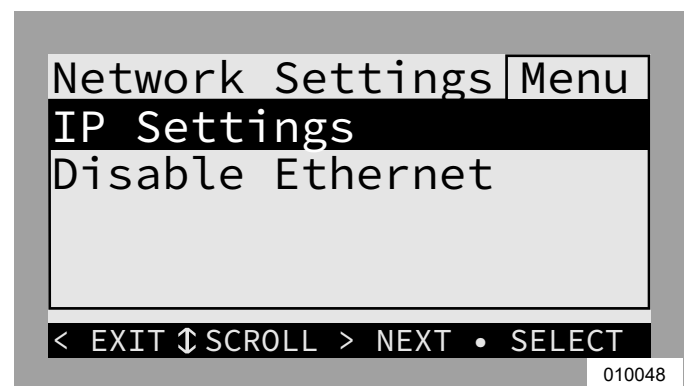

Figure 6-26. Ethernet Configuration (1 of 2)
3. See Figure 6-26. Press the center button from the Ethernet settings screen and select IP Settings.